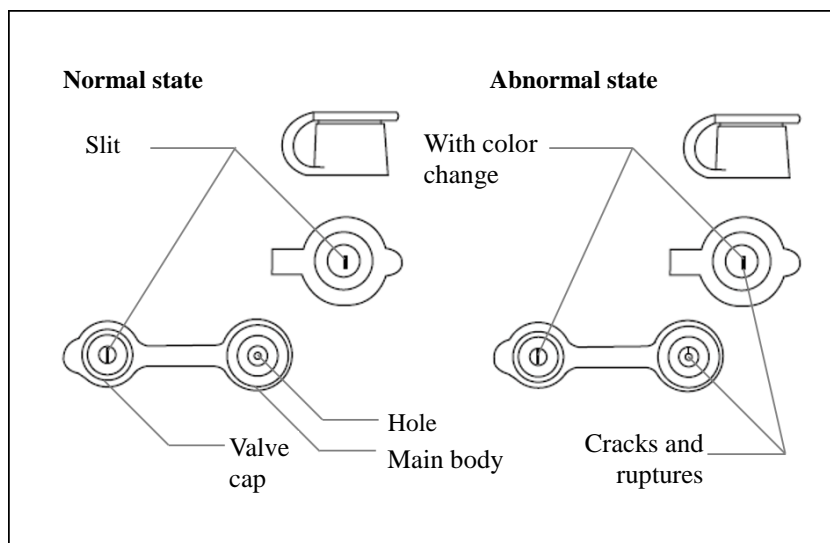

Figure 3.21
1. Confirm that there are no cracks, ruptures, deformations or other damages in the slits and holes of the biopsy valve cap (as shown in Figure 3.21).